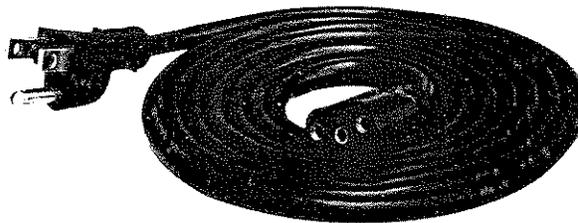

Figure 1-1. Model 4260A and Accessory
1-2. The YHP Model 4260A Universal Bridge (Figure 1-1) makes fast, easy measurements of resistance (R), capacitance (C), inductance (L), capacitor dissipation factor (D), or inductance quality factor (Q). The instrument includes five bridge circuits, selected by the FUNCTION switch, as well as the detector and 1 kHz oscillator necessary for dc and ac measurements. For measurements at frequencies other than 1 kHz, an external oscillator must be used.